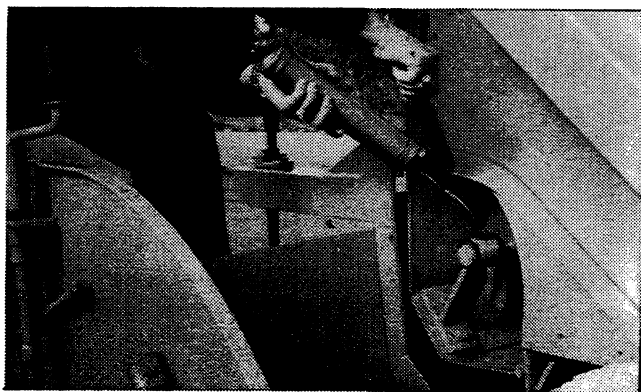

Figure 5-1—Auger Grease Fittings
4. There are three grease fittings that should be greased daily with a good grade of multi-purpose grease. Two fittings are on the outside ends of each auger as shown in Figure 5-1.